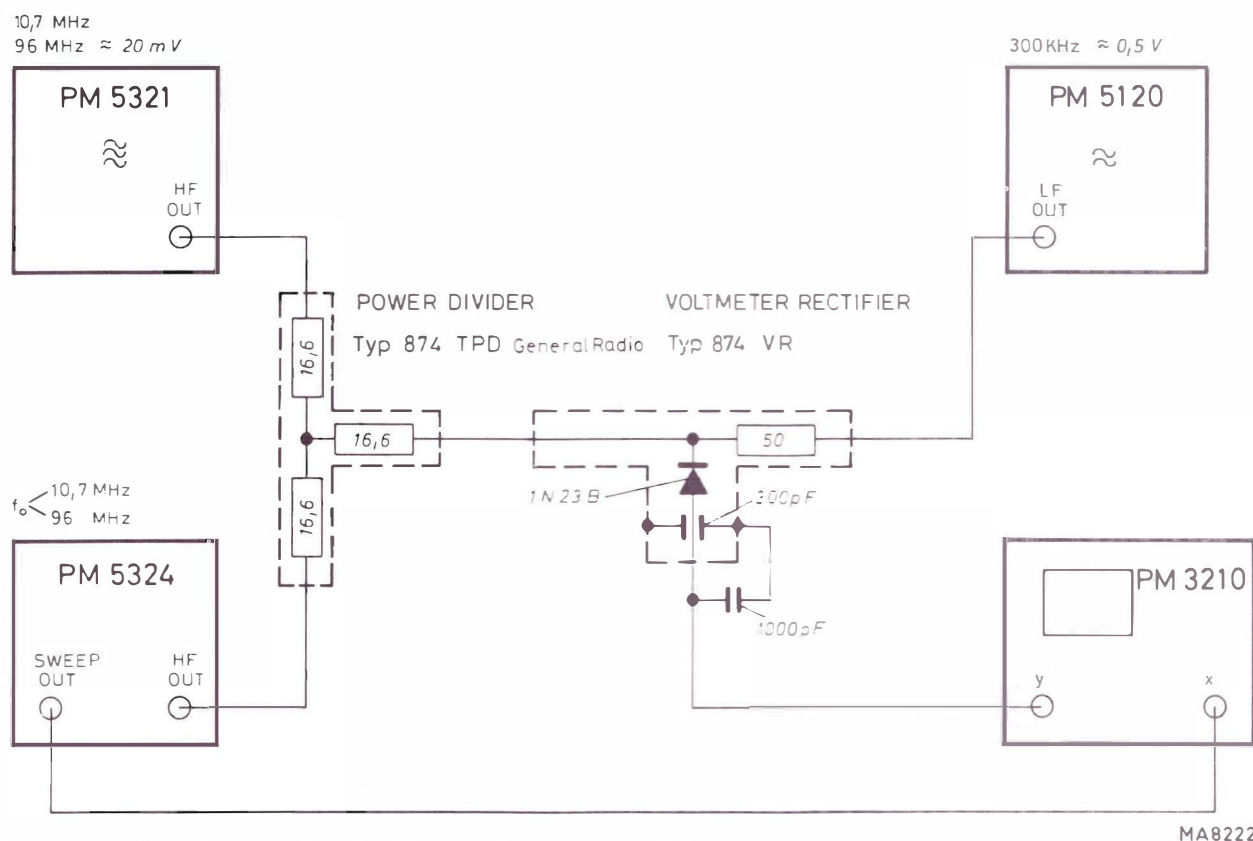

Fig. 30. Measuring set-up to determine the frequency sweep and the symmetry
- Set-up the arrangement according to figure 30
- In the middle of the picture a frequency mark f_0 (A) appears